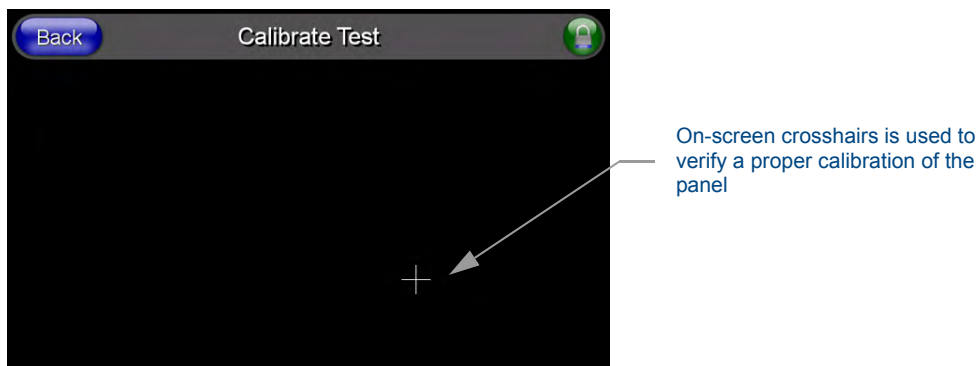

FIG. 28 Calibration Test page
1. Press and hold down the on-screen **Calibration** button for 6 seconds to enter the Calibration Test page (FIG. 28).